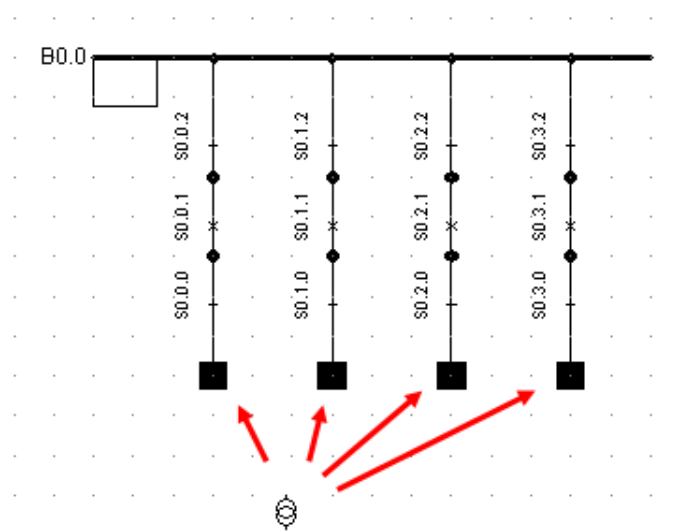
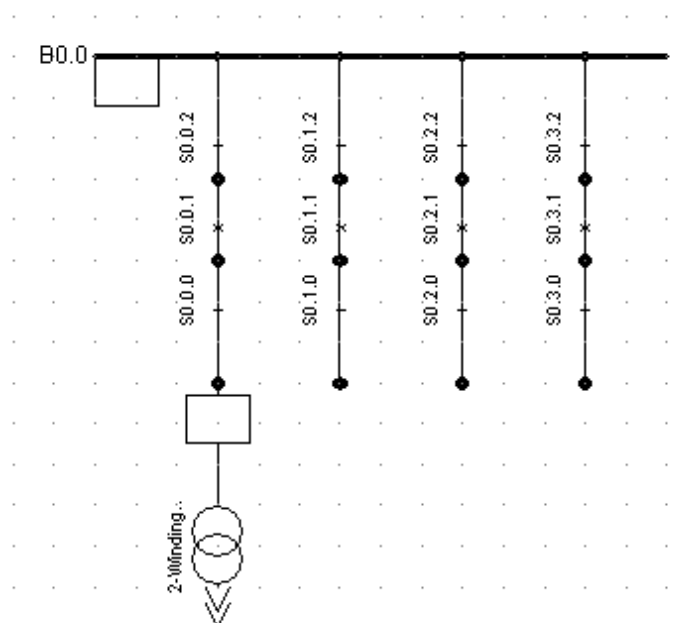

Figure D.1.2: Connecting the transformer to the single busbar system (in detailed substation graphic)
Figure D.1.3: Transformer connected to the single busbar system
- The detailed graphic of the upper substation is opened automatically. Connect the transformer to one bay by clicking on one of the marked breaker terminals as illustrated in Figure D.1.2 The result should look like Figure D.1.3